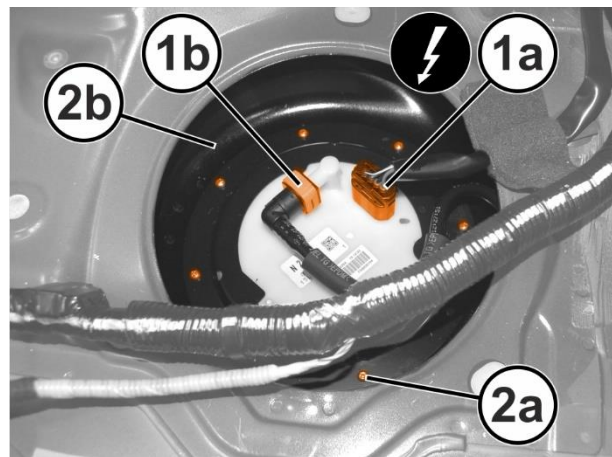

Figure 21 – Fuel Module Connections
- 44. Clean any dust or debris from the fuel pump module area prior to working on any fuel pump module components (Figure 21).
- 45. Disconnect the electrical connector (1a) from the fuel delivery module (Figure 21).
- 46. Release the quick coupling and disconnect the fuel pipe (1b) from the fuel delivery module (Figure 21).
- 47. Remove the screws (2a) and the retaining ring (2b) (Figure 21).
13. Place the retaining ring (2b) in position then secure it using the screws (2a) (Figure 21).
14. Connect the fuel pipe quick coupling (1b) to the fuel delivery module (Figure 21).
15. Connect the electrical connector (1a) to the fuel delivery module (Figure 21).